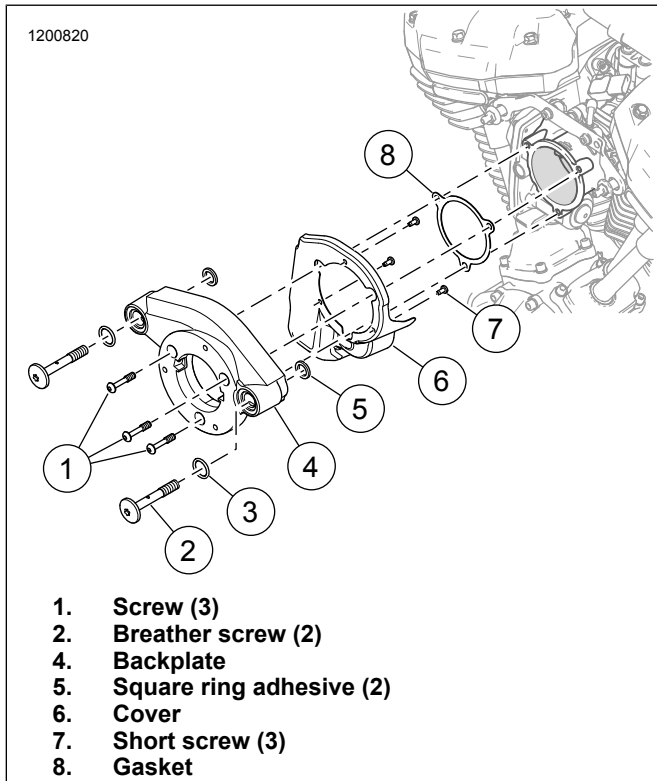

Figure 1. Intake Tube
1. See Figure 1. Position cover (6) on backplate (4).
2. Secure short screws (7). Tighten.